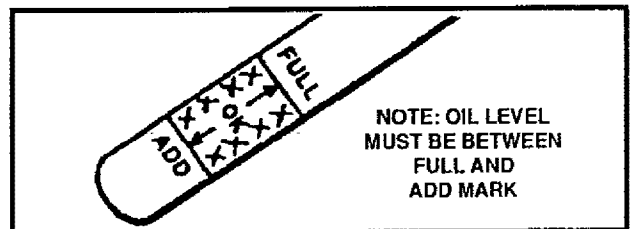

FIG. 2
Check the crankcase oil level (See FIG. 2) before starting the engine and after each five (5) hours of continuous use. Add S.A.E. 5W30 motor oil as needed. Tighten fill cap/dipstick securely each time you check the oil level. S.A.E. 0W30 motor oil may be used to make starting easier in areas where the temperature is 20° F or lower.